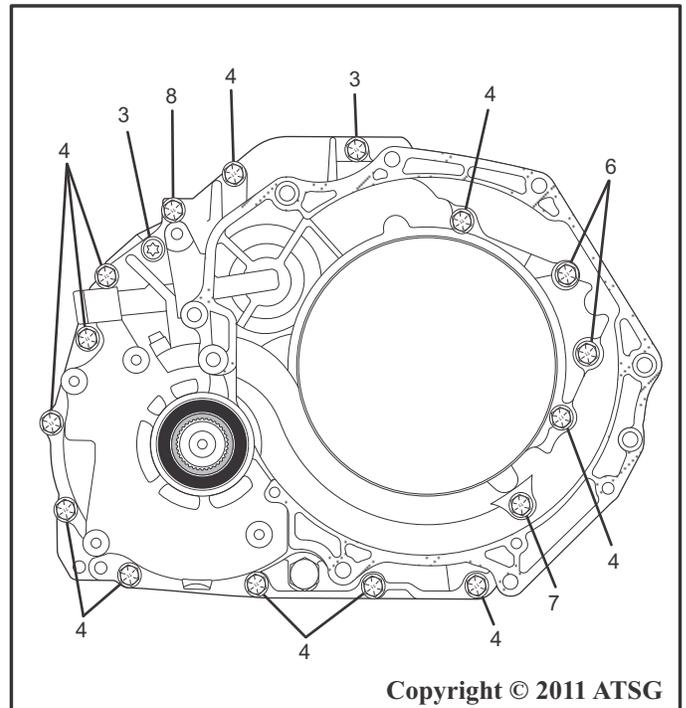

Figure 243
78. Install the eleven M8 x 1.25 x 30 mm bolts (4) and hand tighten as shown in Figure 243.
79. Install the two M8 x 1.25 x 30 mm bolt/studs (3) and hand tighten as shown in Figure 243.
80. Install the two M8 x 1.25 x 35 mm bolts (6) and hand tighten as shown in Figure 243.
81. Install the one M8 x 1.25 x 45 mm bolt (7) and hand tighten as shown in Figure 243.
82. Install the one M8 x 1.25 x 30 mm TORX 40 bolt (8) and hand tighten as shown in Figure 243.